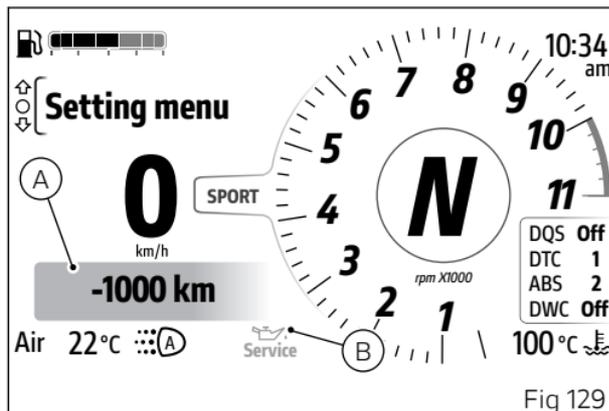

Fig 129
When the thresholds set for service coupons are close, the instrument panel activates the following grey warnings for 5 seconds upon each Key-On, showing the remaining distance or days: for "Oil service" (Fig 129) and "Valve Clearance Check Service" it is activated 1000 km (621 miles) before service is due, for "Annual service" 30 days before service is due.
Once the threshold of the service coupons has been reached and upon every Key-On, the corresponding amber yellow signal is activated in large mode (A, Fig 129) for 5 seconds, then the signal toggles to small mode (B, Fig 129): "Oil service" (C), "Valve Clearance Check Service" (D), "Annual service" (E). Amber yellow service warning is displayed until reset by the Ducati authorised service centre, during maintenance.